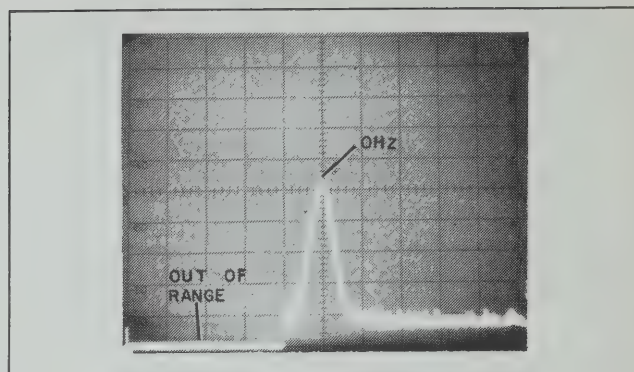

Figure 4-14. Frequency Out Of Range.
4-97. Out of Range Detector. As illustrated in Example 3, certain combinations of FREQUENCY and FREQ SPAN settings cause the voltage at the output of the Dial Mixing Amplifier to go below the 0 V (0 Hz) lower limit or above the +9 V (50 kHz) upper limit. When either limit is exceeded, the VTO frequency is driven out of range. This could cause erroneous responses to appear on the display. The Frequency Out-of-Range Detector senses when the Dial Mixing Amplifier output is more negative than 0 V or more positive than +9 V and, in turn, generates an (L)Data flag which is applied to the Digital Storage section. In the Digital Storage section, the (L)Data flag clears the memory locations where the frequency is out of range. As a result, a clean baseline appears on the display (Figure 4-14).